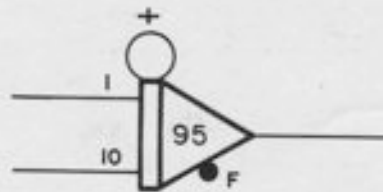

Figure A1.3. Integrator with Ten Times Normal Gain
1. A pin in any of these terminals acts like a constant logic ONE. As an example of the use of pins, see Figure A1.3, which shows an integrator with a smaller than normal feedback capacitor. Such patching is useful in problems involving a wide range of time constants. The integrator in Figure A1.3 has a gain ten times that of the normal integrator. The "MS" button will speed this integrator up by a factor of 1000, just like a normal integrator, since the "MS" input is unpatched, and hence is still connected to the main mode control.